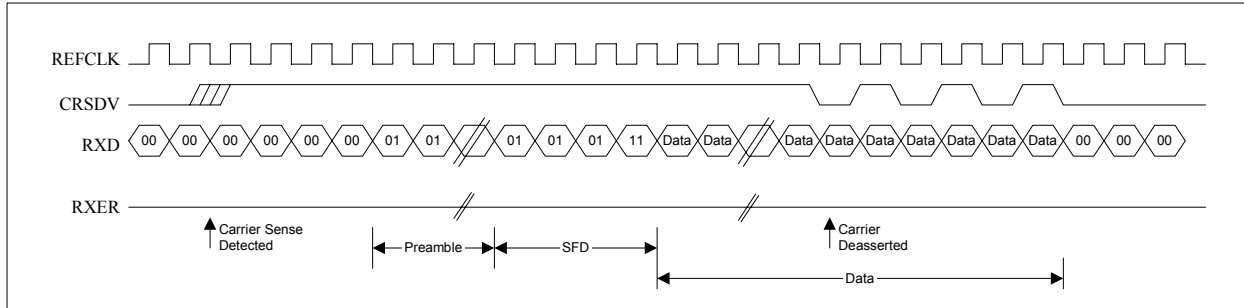

Figure 3-4 RMII Reception Without Error
Figure 3-4 shows the relationship among REFCLK, CRSDV, RXD and RXER while receiving a valid packet. Carrier sense is detected, which causes CRSDV to assert asynchronously to REFCLK. The received data is then placed into the FIFO for resynchronization. After a minimum of 12 bits are placed into the FIFO, the received data is presented onto RXD[1:0] synchronously to REFCLK. Note that while the FIFO is filling up RXD[1:0] is set to 00 until the first received di-bit of preamble (01) is presented onto RXD[1:0]. When carrier sense is de-asserted at the end of a packet, CRSDV is de-asserted when the first di-bit of a nibble is presented onto RXD[1:0] synchronously to REFCLK. If there is still data in the FIFO that has not yet been presented onto RXD[1:0], then on the second di-bit of a nibble, CRSDV reasserts. This pattern of assertion and de-assertion continues until all received data in the FIFO has been presented onto RXD[1:0]. RXER is inactive for the duration of the received valid packet.